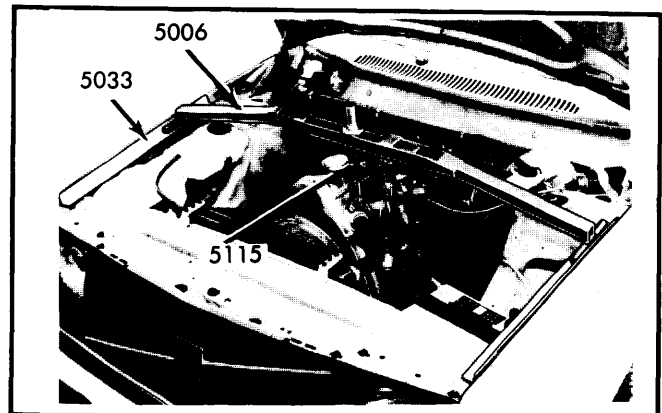

Fig. 5 Lifting Tools Installed for Oil Pan Removal
2) Position lifting tools (5006, 5033 and 5115) and lift engine slightly. See Fig. 5. Take out crossmember bolts. Lower crossmember. Remove left engine mount. Remove support bracket (located between rear of oil pan and clutch housing). Remove oil pan bolts. Turn and lower oil pan.